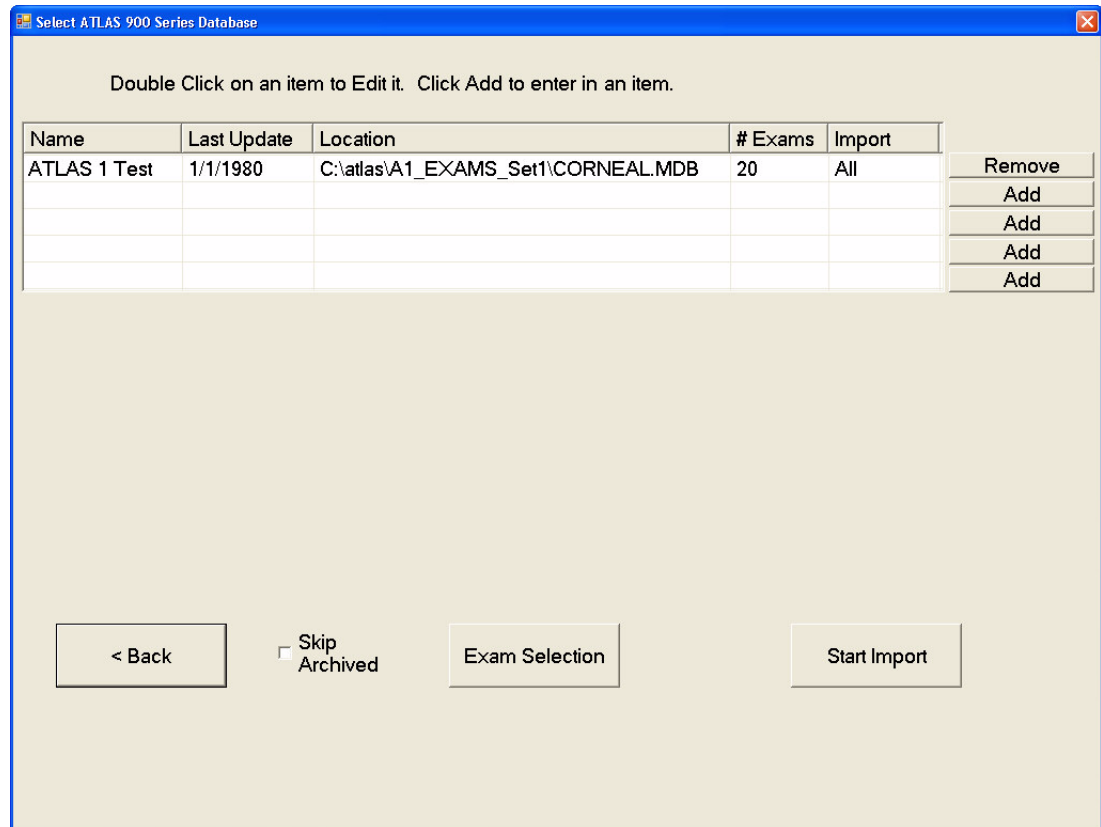

Figure 11-10 Select ATLAS 900 Series Database Dialog with Added Database
8. After clicking **Add**, the Select ATLAS 900 Series Database dialog will be displayed showing the database you have just added (Figure 11-10). Double-click the database to edit it and return to the Add / Edit ATLAS 900 Series Database dialog. If you want to remove the database, click the **Remove** button. A dialog will appear asking you if you really want to remove the database. Click **Yes** to remove, or **No** to cancel removal.